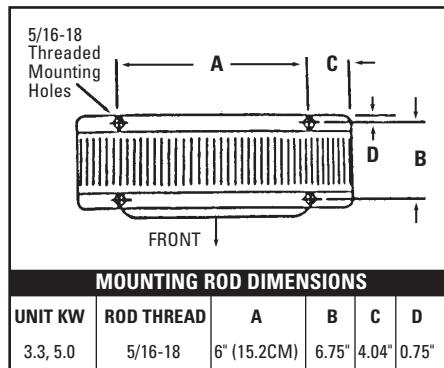

Figure 3. Horizontal discharge rod spacing
1. Mounting with rod from ceiling or superstructure: (Figure 3)
- b. Install four 5/16-18 threaded rods in holes and secure in place using lock (jam) nuts. (Figure 3)